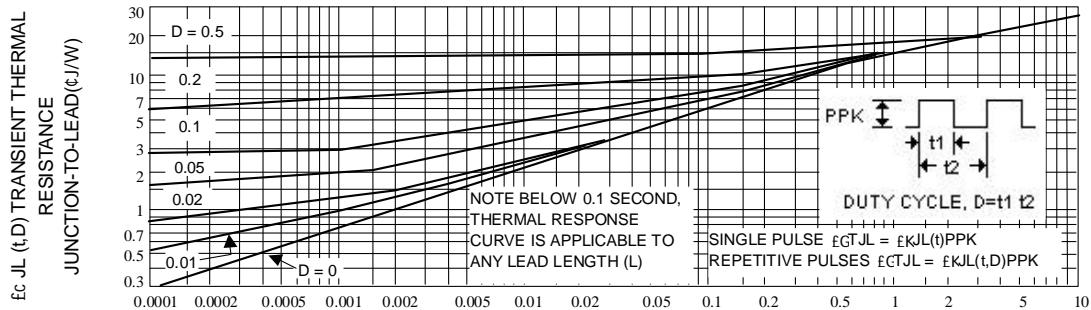
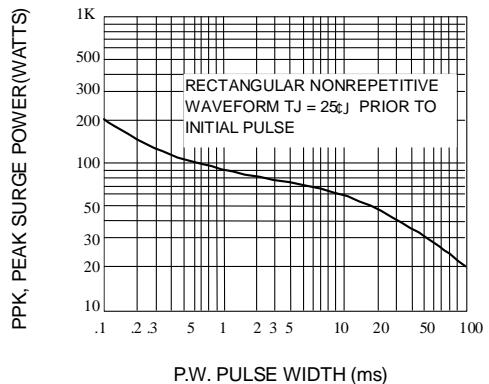
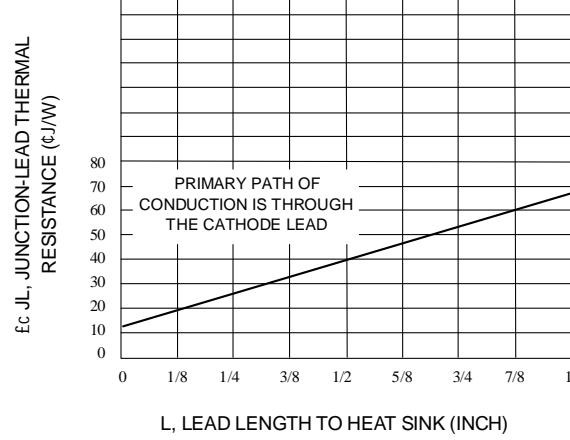

Fig. 2-TYPICAL THERMAL RESPONSE L,
Fig. 3-MAXIMUM SURGE POWER
Fig. 10-TYPICAL THERMAL RESISTANCE
4. SURGE CURRENT (I_r) NON-REPETITIVE - The rating listed in the electrical characteristics table is maximum peak, non-repetitive, reverse surge current of 1/2 square wave or equivalent sine wave pulse of 1/120 second duration superimposed on the test current, I_{zT} , per JEDEC standards, however, actual device capability is as described in Figure 3.
EGT_{JL} is the increase in junction temperature above the lead temperature and may be found from Figure 2 for a train of power pulses or from Figure 10 for dc power.
Data of Figure 2 should not be used to compute surge capability. Surge limitations are given in Figure 3. They are lower than would be expected by considering only junction temperature, as current crowding effects cause temperatures to be extremely high in small spots resulting in device degradation should the limits of Figure 3 be exceeded.